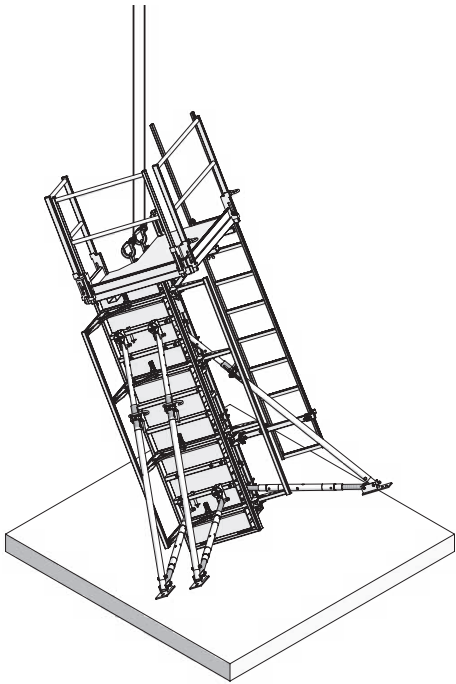

Fig. 10.2
1. With a crane or another suitable device, erect the panel unit with the access platform and brace frames at its place of use (Fig. 10.2).